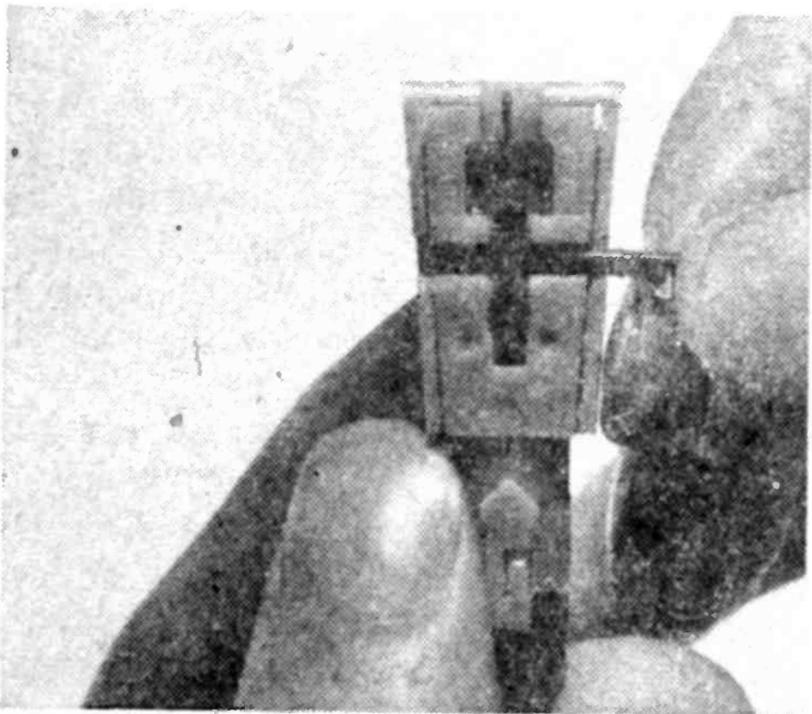

Fig. 6. On this popular cartridge, the stylus shank simply snaps into the plastic cartridge body.
**Troublesome Tubes.** As in most other circuits, tubes account for the bulk of color-sync faults. You can locate tubes (Fig. 5) associated with color sync by examining the set's chroma (or color) board. It's usually a subchassis or printed circuit that bears most circuitry for processing color signals. The layout of a color board used in a recent Westinghouse receiver is shown in Fig. 6. When color sync acts up, check those tubes by substituting known good ones before probing more deeply into the set.
Some styli are held down with a metal clip as in Fig. 5; some snap into position as in Fig. 6. Others plug into a slot or are bolted in place with a small nut. With a steady hand, anyone can replace a stylus. If nervous, let someone else do it.